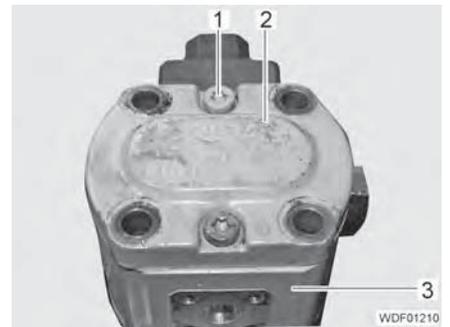

Fig. 156 Cover attachment
- Unscrew the 2 screws (Fig. 156,1).
- Remove the cover (Fig. 156,2) and place it aside.
- Carefully remove the housing (Fig. 156,3) and place it aside.
- Pull the housing (Fig. 156,3) over the internal components.
- Place the cover (Fig. 156,2) onto the housing.
- Screw in and tighten the 2 screws (Fig. 156,1).
- Carefully rotate the pump 180° and carefully tighten the cover (Fig. 156,2).